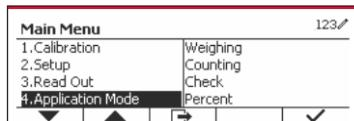

Figure 37
- Press the  button to enter the Main Menu. (See Figure 37)
- With the button corresponding to the  icon, go down the list and highlight Application Mode. Enter this submenu by pressing the button corresponding to the  icon. (See Figure 37)